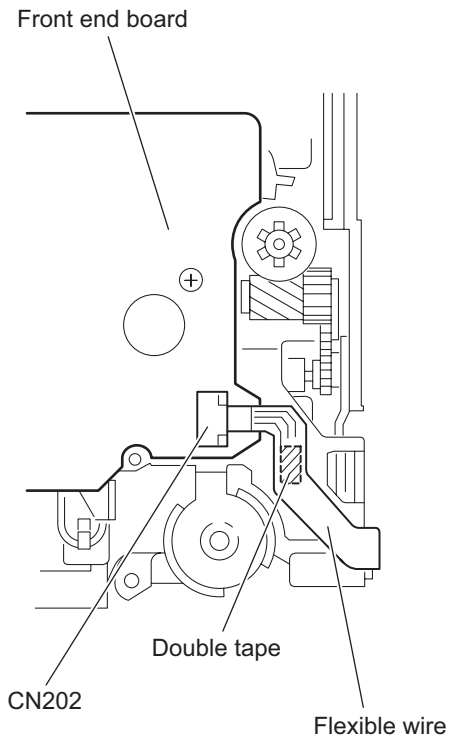

Fig.10
3.4.6 Removing the front unit (See Figs.10 to 12)
- (1) Disconnect the flexible wire from connector CN202 on the front end board at the bottom of the body. (See Fig.10.)
When reassembling, attach the flexible wire extending from the switch board using the double tape. (See Figs.10 and 12.)